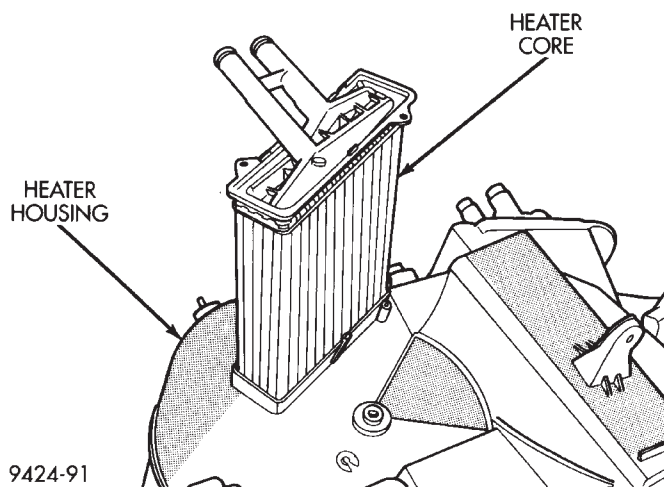
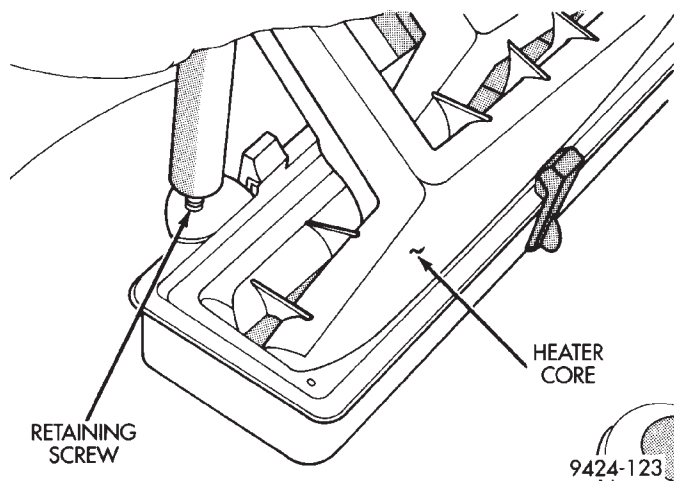

**Fig. 98 Heater Core**
**Fig. 99 Heater Core Retaining Screws**
(26) Install heater core into A/C housing (Fig. 98). Retain core with screws (Fig. 99).